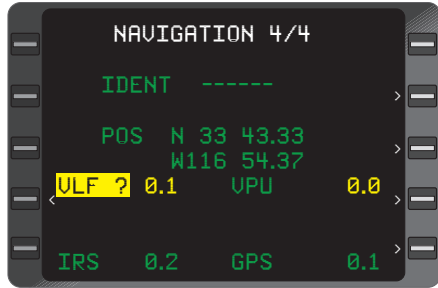

Figure 3-190
2. Line Select Key - DEPRESS to position the cursor over **VLF** sensor field. (Figure 3-190)